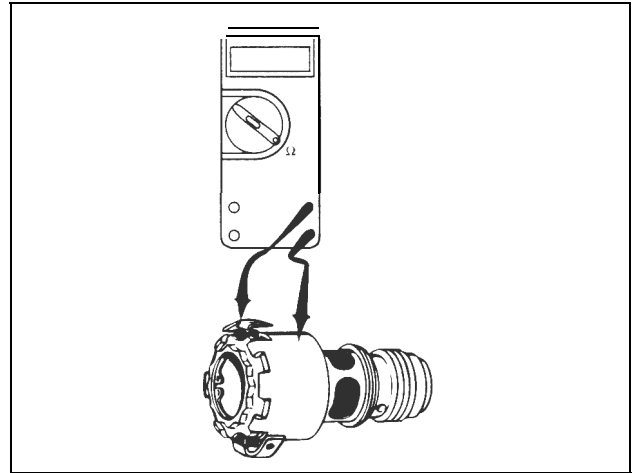

FIG. 1.1.30
**Correction:** Measure resistance of each solenoid valve (Fig. 1.1.30). Solenoid valves not within correct values must be replaced.